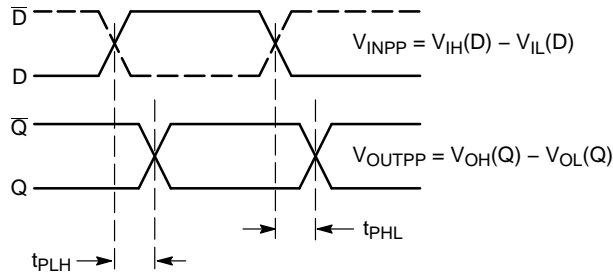

Figure 17. AC Reference Measurement
11. See Figure 17 differential measurement of  $t_{skew} = |t_{PLH} - t_{PHL}|$  for a nominal 50% differential clock input waveform @ 250 MHz.